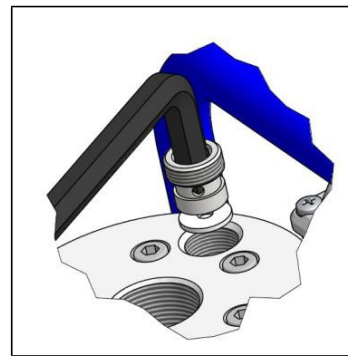

Fig.10.1.11
4. (Fig.10.1.11) Unscrew the valve seat from the valve block using an SW12 allen wrench. Check for contamination or wear. Contamination must be removed immediately. If this does not solve the issue, or the valve seat shows signs of wear, this must be replaced. When replacing, the sealing disc should be carefully be removed from the valve block using a screwdriver or a pointed object.